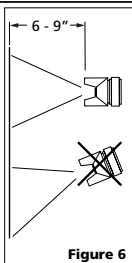

Figure 6
1. Begin spraying. Always keep the gun at right angles to the work by flexing your wrist while making the paint stroke. (See Figure 6).